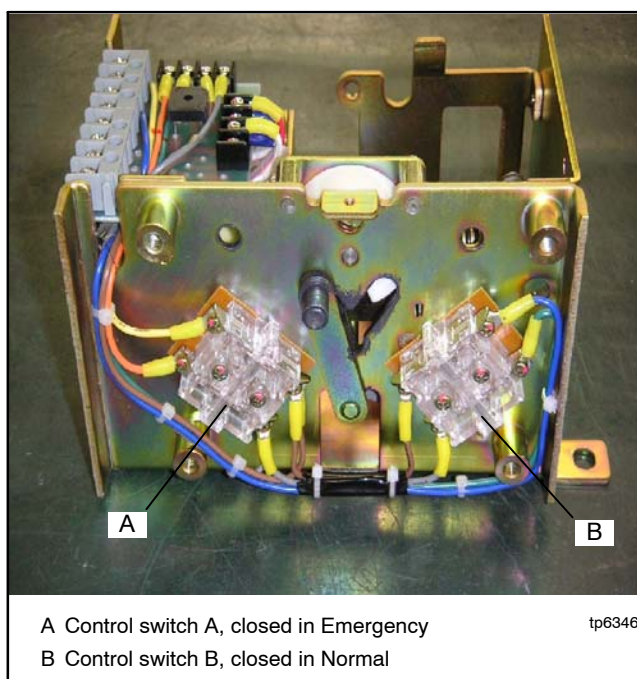

Figure 7-26 Control switches
3. Note the connections and then disconnect all control switch leads at 8 locations. See Figure 7-26.